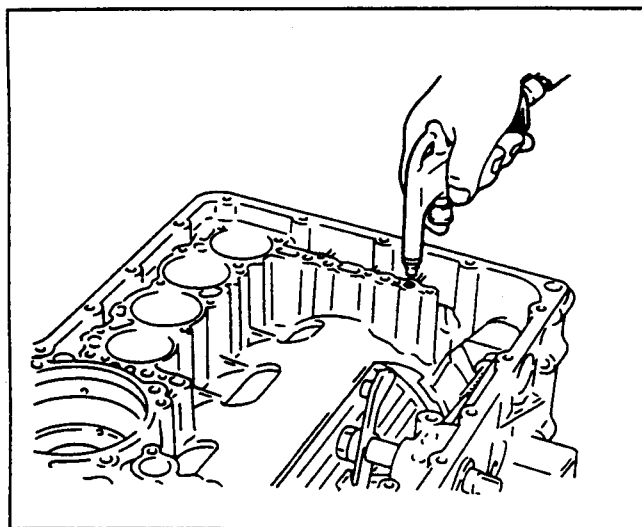

Figure 163. Forward Clutch Operation Check
4. Check the operation of the forward clutch by blowing 294 – 392 kPa (42 – 56 psi) air into the oil hole (figure 163).